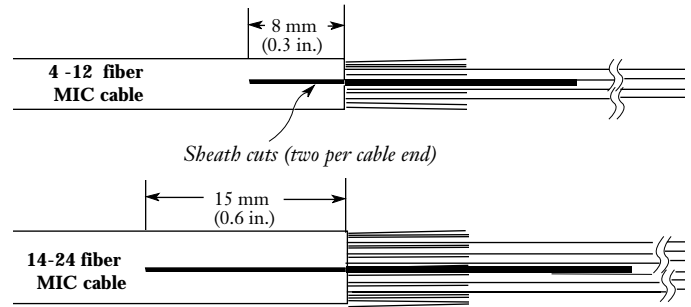

Figure 7
4.14 Using the hook blade knife, carefully make two cuts on opposite sides of the cable sheath end: for 4-12 fiber cables the cuts should be 8 mm (0.3 in); for 14-24 fiber cables, make the cuts 15 mm (0.6 in.) long (Figure 7).